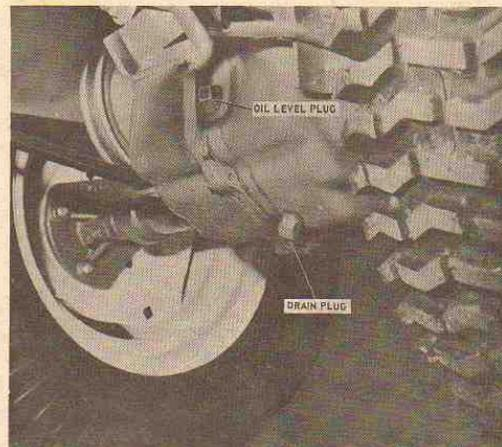

FIG. 12
To drain oil, unscrew drain plug under transaxle, refer to Fig. 12, and catch oil in suitable container.
4. To check oil level, remove plug from front of transaxle, Fig.12. Oil level should be even with this plug.